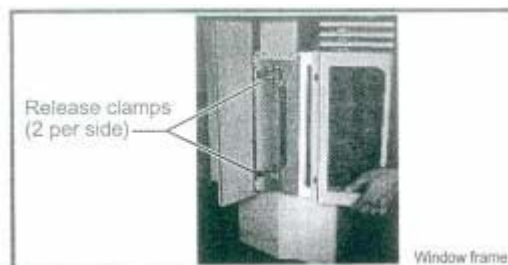

Fig. 2 Window frame removal
4. Open the clamps on the two sides (Fig. 2)